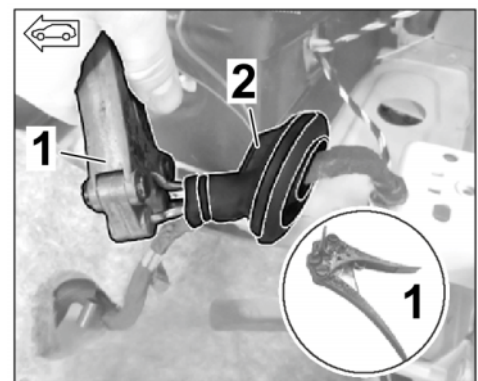

Figure 36
3.3.7 Guide the new branch for the exhaust flap (left / right) through the new grommet (left = \varnothing 66.5 mm / right = \varnothing 46 mm \Rightarrow Figure 36) using three mandrel pliers and an auxiliary line (Tekalan or Teflon tube).